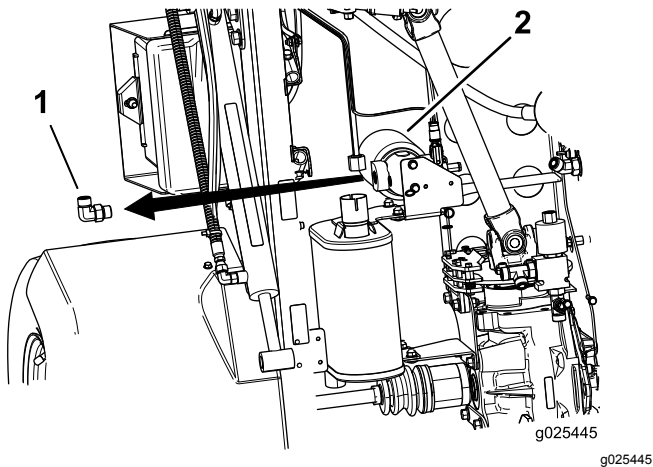

Figure 14
1. Remove the existing 90° fitting from the hydraulic-fluid filter (Figure 14).